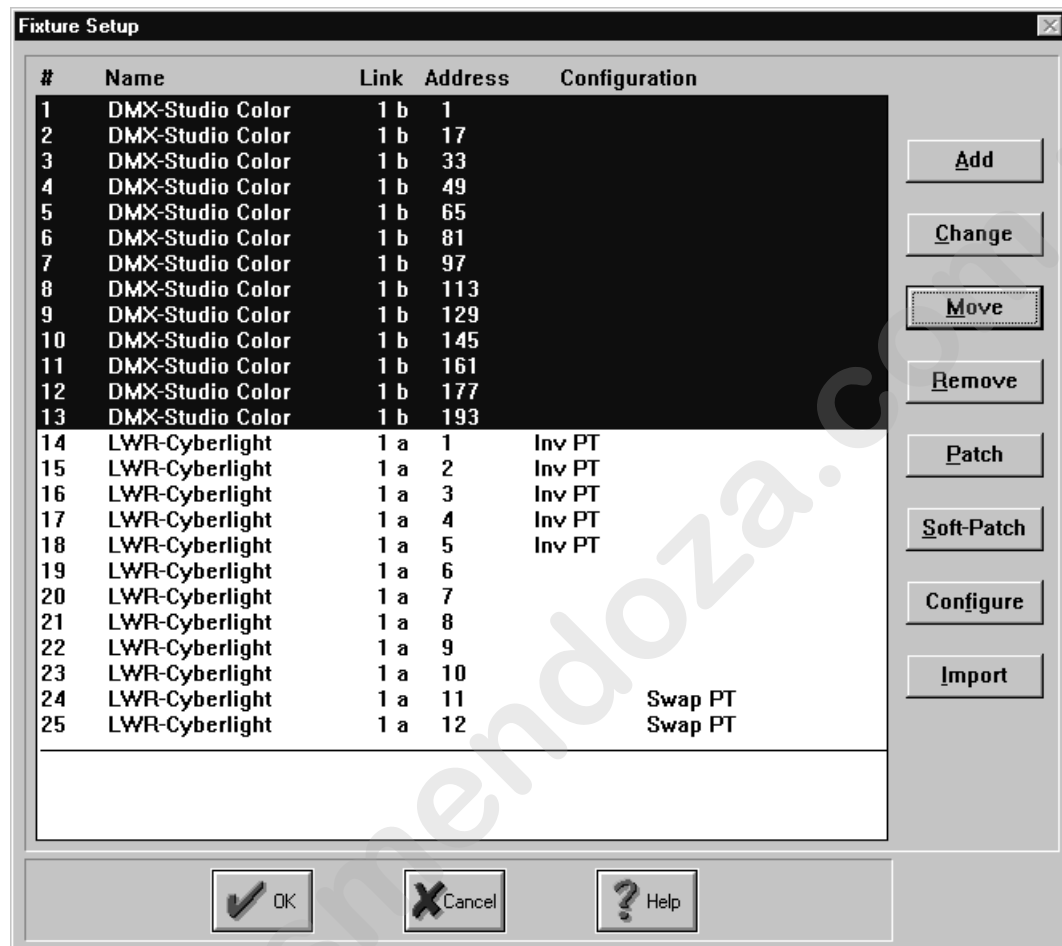

Figure 4.10. Moved Fixtures Example
5. Click the **OK** button. The selected fixtures are moved above the insertion point. Refer to Figure 4.10 for an example.